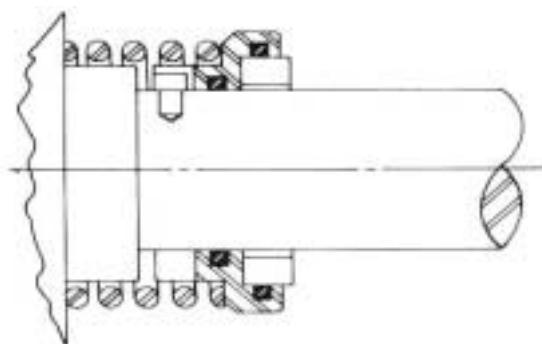

FIGURE 10
7. Place seal spring on shaft against rotor hub. Refer to Figure 10.